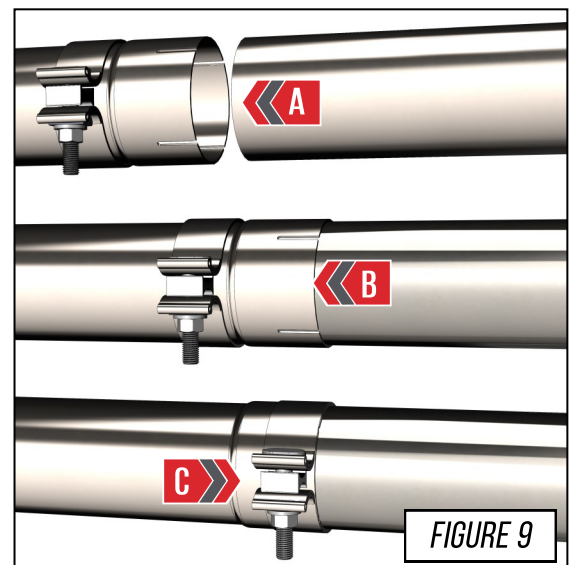

FIGURE 9
**Arrow A** in **Figure 9** shows the expanded pipe and the preinstalled Accu-Seal clamp being brought up to the corresponding pipe.
**Arrow B** in **Figure 9** shows the overlapping pipe installed correctly over the corresponding pipe.
**Arrow C** in **Figure 9** shows the Accu-Seal clamp being brought to the edge of the expanded pipe.
Install the AWE Mid Section (part **C15**) by securing the hanger bars into their respective brackets, then slip one of the supplied 3.0" Accu-Seal clamps over the inlet end and connect it to the outlet of the preceding tube. **Figure 9**